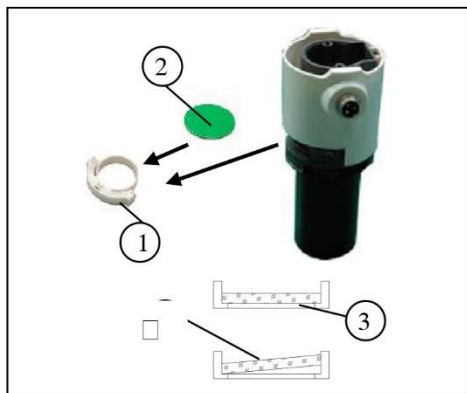

Figure 11
2.2.8. Installing the color filters (Figure 11)
- ❖ Be sure the color filter cools down completely before you change them. Take down the filter holder ①, then install the color filters ② you need.
- ❖ Mount the color filter downwards like ③ shown, keep it horizontal through the end, not allow inclined.
- ❖ If the color filter is inclined or not get to the end ④, it will drop possibly.